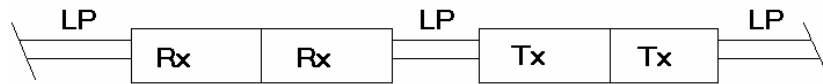

Fig. 1.1 How to Form a Long Protective Boundary
1.4.10. A long protective boundary consisting of several sectors is formed according to fig. 1.1. The beginning and the end of the line must be realized by any electronic unit Rx or Tx.